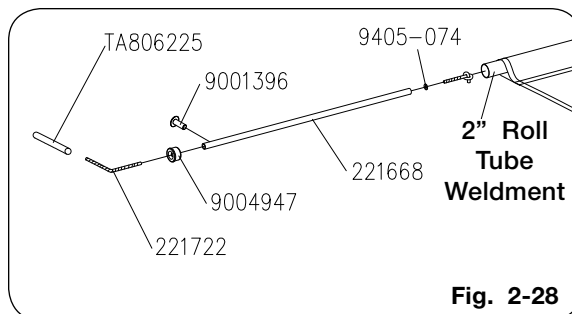

Fig. 2-28
11. Insert knotted stretch rope (221722) through flat washer (9405-074), plastic tube (221668) and end plug (9004947). Place these items as an assembly into front end of 2" roll tube weldment and press the end plug into the end of the tube. Screw self-drilling screw (9001396) through the side of roll tube, into end plug (9004947) to retain plug into tube. Slide hose (TA806225) over bungee. See Fig. 2-28.